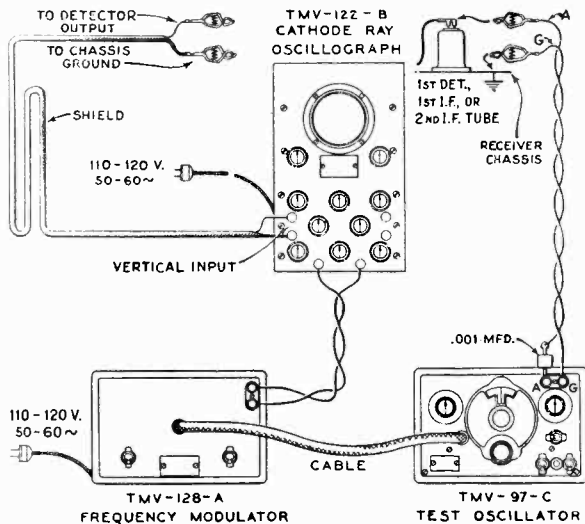

Figure 6—Alignment Apparatus Connections
Six trimmers are associated with the three i-f transformers. Their locations on the chassis are shown by Figure 7. Each must be aligned to a basic frequency of 460 kc. The last i-f transformer should be adjusted first, the one preceding it second and the operation carried through successive stages until the first transformer has been aligned. For such a process, it is necessary to feed the output of the Full Range Oscillator to the stages in their order of alignment, adjusting the trimmers of each and observing the effect at the second detector output on the Cathode-Ray Oscilloscope. The most convenient point for connection of the Oscilloscope is at the detector diode load circuit, with the vertical "Hi" terminal attached to the juncture of R-17, R-18 and R-19, and the "Gnd" to the chassis. The "Ext. Sync." terminals of the Oscilloscope should be connected to the Frequency Modulator as illustrated in Figure 6. A .001 mfd. capacitor installed in series with the Oscillator "Ant." output lead will prevent the voltage constants of the stage being aligned from becoming upset. Proceed further as follows:—
- (c) The Frequency Modulator should then be placed in operation and interconnected with the Full Range Oscillator by means of the shielded patch cord provided. Figure 6 shows the proper arrangement. Set the Frequency Modulator sweep range switch to its "Lo" position and turn the Oscillator modulation switch to "Off". Change the timing (Sync.) control of the Oscilloscope to "Ext." and place the range switch to its No. 2 position. Then shift the tuning of the Oscillator so as to increase its frequency, until two distinct and similar waves appear on the Oscilloscope screen and become coincident at their highest points. These curves will be found to occur at an Oscillator setting of approximately 540 kc. They will be identical in shape but appearing in reversed positions. Adjust the frequency control of the Oscilloscope in order to cause the waves to conform with these requirements and to make them remain motionless on the screen. This will require a setting of approximately  $\frac{1}{2}$  clockwise rotation of the frequency control. The trimmers C-30 and C-31 should then be re-adjusted so that the two curves move together and become exactly coincident throughout their lengths, maintaining the maximum amplitude at which this condition can be brought about.
- (a) With the receiver range switch on its Band A position, tune the station selector until the dial pointer is at a reading of 1720 kc. Adjust the Oscillator to 1720 kc. (modulation "On" and Frequency Modulator disconnected) and increase its output to produce a registration on the Oscillograph. Carefully align the oscillator, detector and antenna trimmers, C-46, C-12 and C-3 respectively, so that each brings about maximum amplitude of output as shown by the wave on the Oscillograph. It will be necessary to have the timing control of the Oscillograph on "Int." for this operation. Then shift the timing control to "Ext." and place the Frequency Modulator into operation with its connections to the Oscillator and Oscillograph as shown on Figure 6. Retune the test Oscillator (increase frequency) until the forward and reverse waves show on the Oscillograph and become coincident at their highest points. Adjust the trimmers C-46, C-12 and C-3 again, setting each to the point which produces the best coincidence and maximum amplitude of the images.